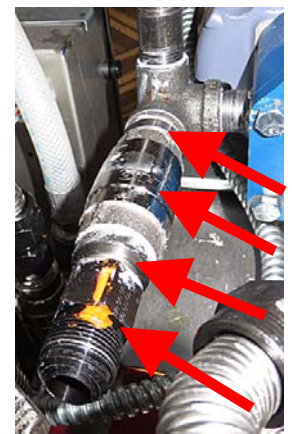

Figure 26
29. Attach the 2 check valve fittings, check valve, and flexline adaptor, removed in steps 23 and 24, to the bottom opening of the elbow as shown (see Figure 26).